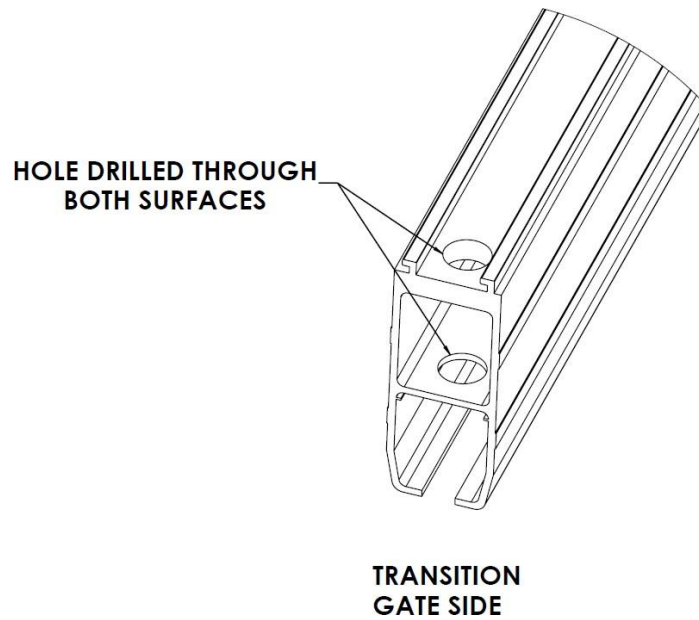

Figure 89: **TrackPlus Track - Hole Drilled Through Both Surfaces**
- For TrackPlus, the hole must be drilled through both surfaces (see Figure 89).